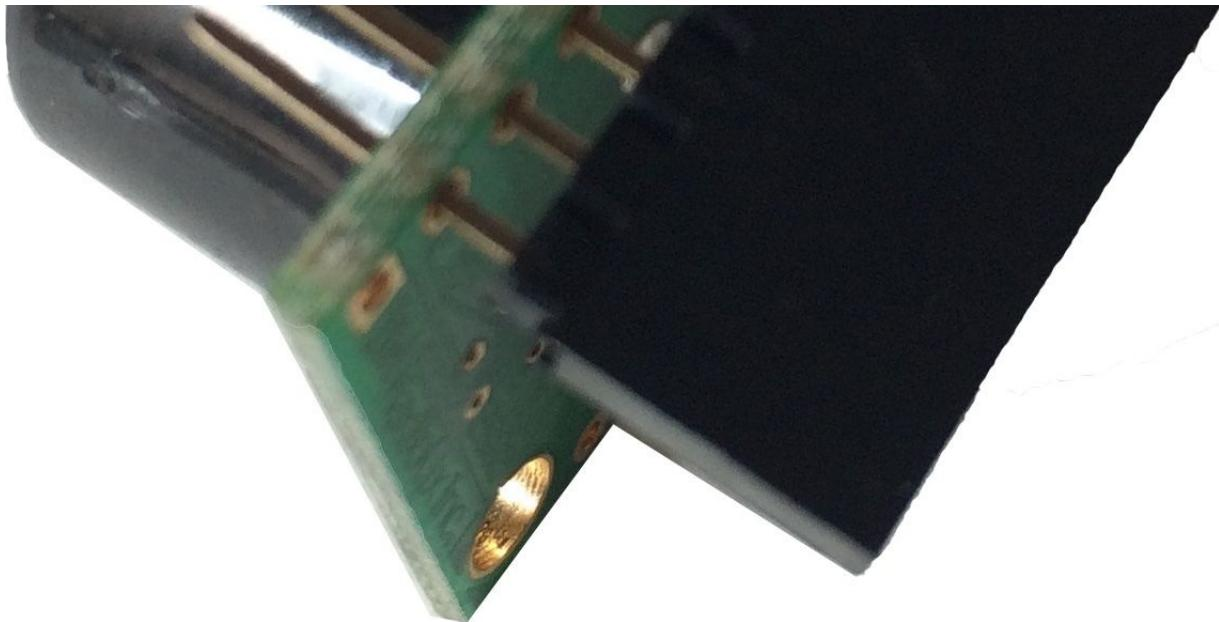

Figure 12-2. Ultrasonic sensor with headers before soldering
2. Solder some headers to the sensor (Figure 12-2) , so that you can easily fiddle with your connections. The most important connections for this project are GND (ground), +5 (voltage in), and AN (analog output signal).